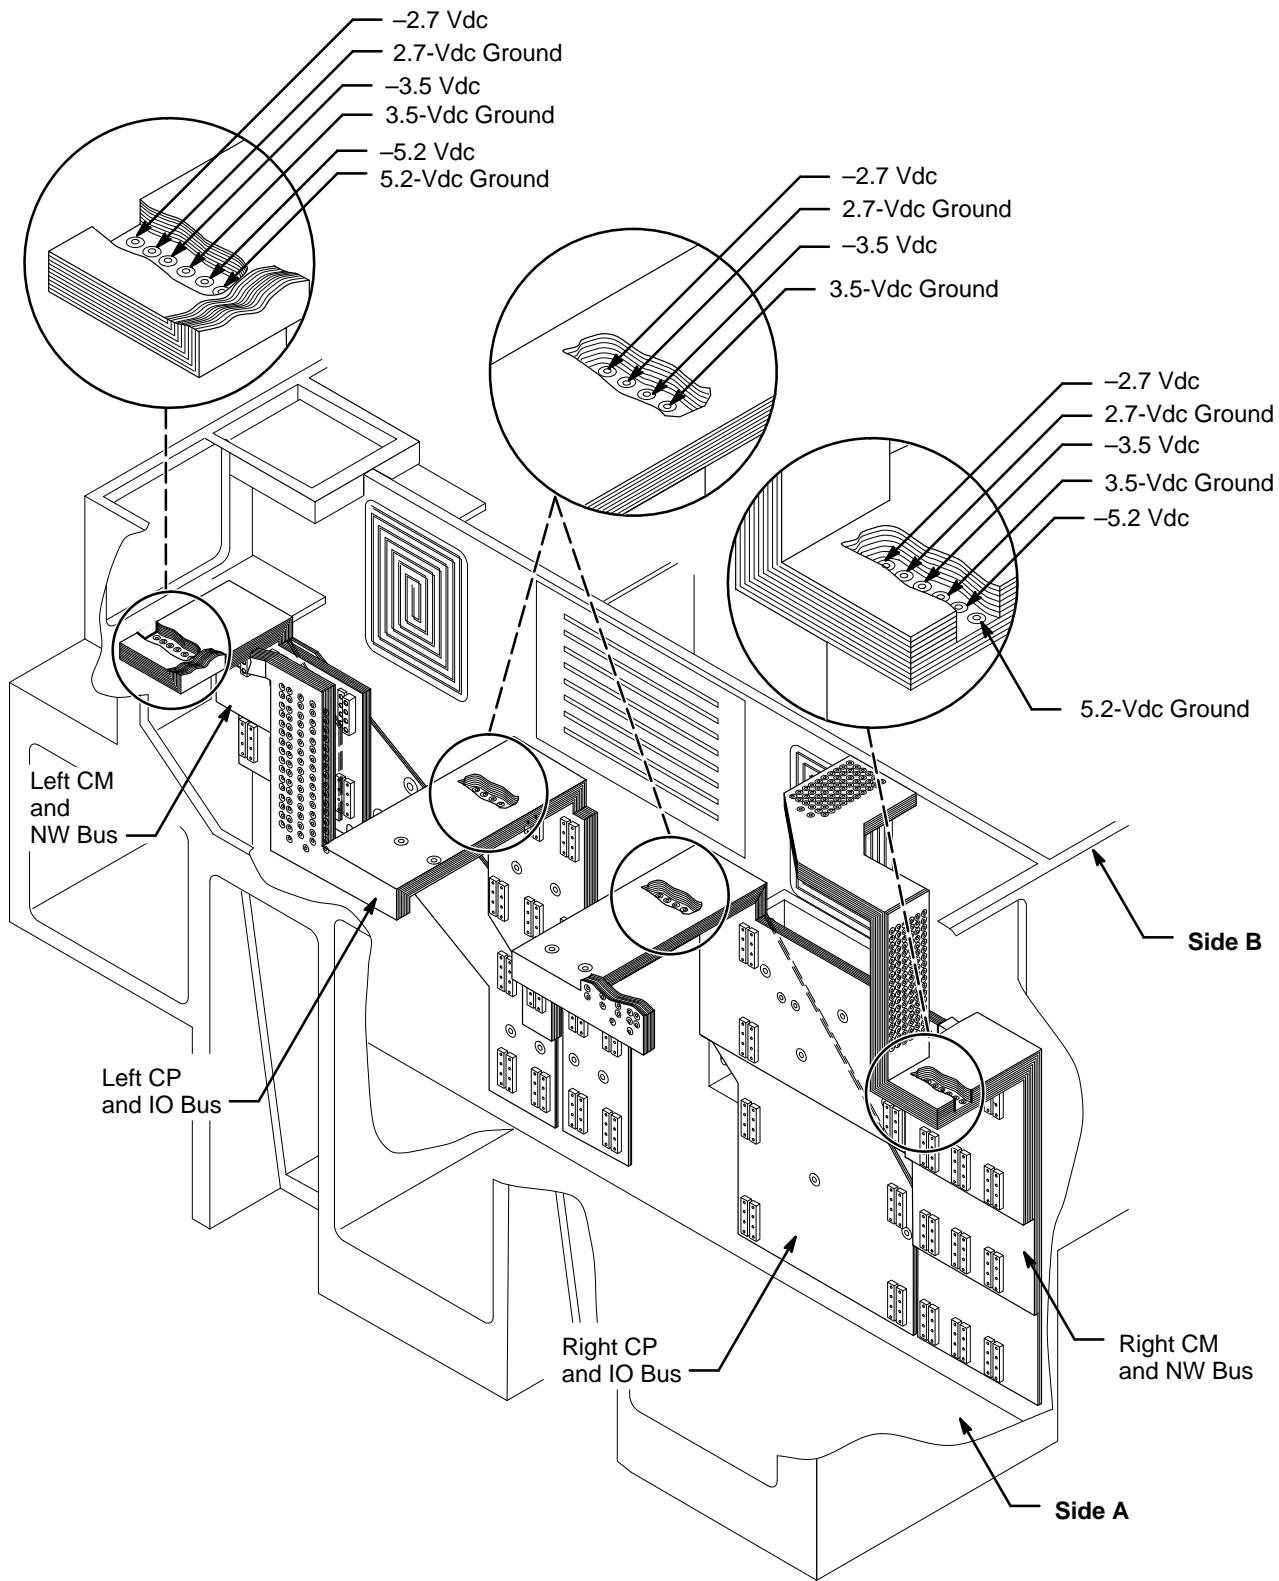

Figure 39. Voltage Sense Points
Voltage sense points allow the control system to monitor the voltage of each power bus and to signal appropriate adjustments to the power supplies for voltage output. Six voltage sense posts on each common memory (CM) bus and four sense posts on each central processor (CP) bus connect to wires that route the voltage levels of each bus to the control system. Figure 39 illustrates the 20 voltage sense point locations in side A of the mainframe. The sense point locations in side B are the same as the sense point locations in side A.